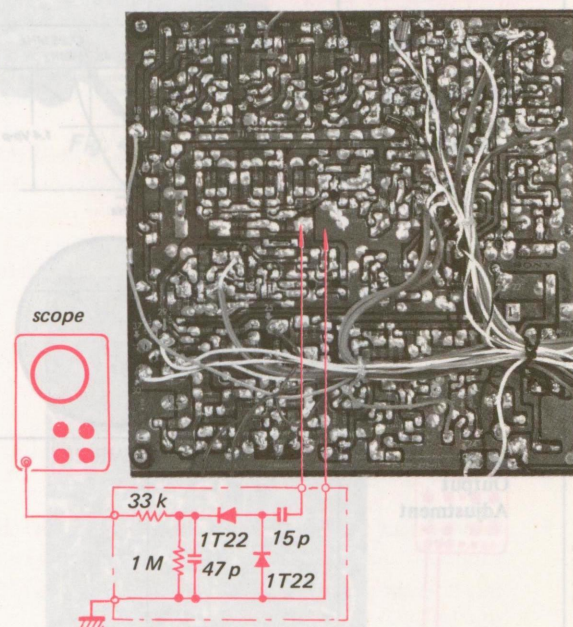

Fig. 4-16. Scope connections to check adjustment of second bandpass amplifier
6. Connect a scope to the secondary of BPT-2 through the network shown in Fig. 4-16.